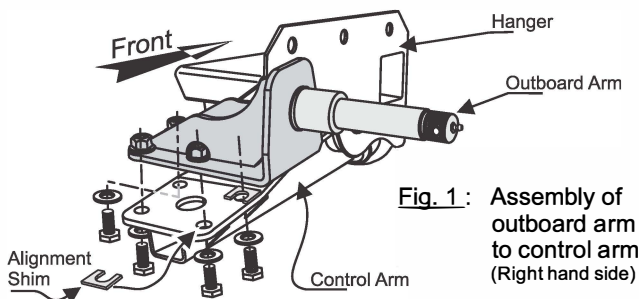

Fig. 1: Assembly of outboard arm to control arm (Right hand side)
1. Install outboard arm on control arm using 4 bolts and washers and shims as required (fasteners are included). Fig. 1 shows what the right hand side should look like; the left hand side is the mirror image. Torque fasteners to 70-75 ft-lbs (95-102 N.m). Skip this section if outboard arm is factory pre-assembled.